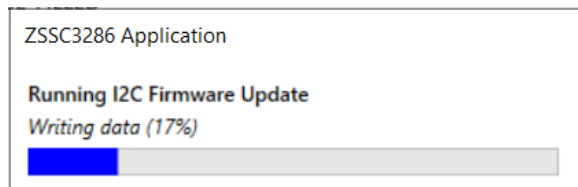

Figure 162. I2C FW Update Progress
- via I2C: Figure 162 shows the progress pop-up window during FW Update.